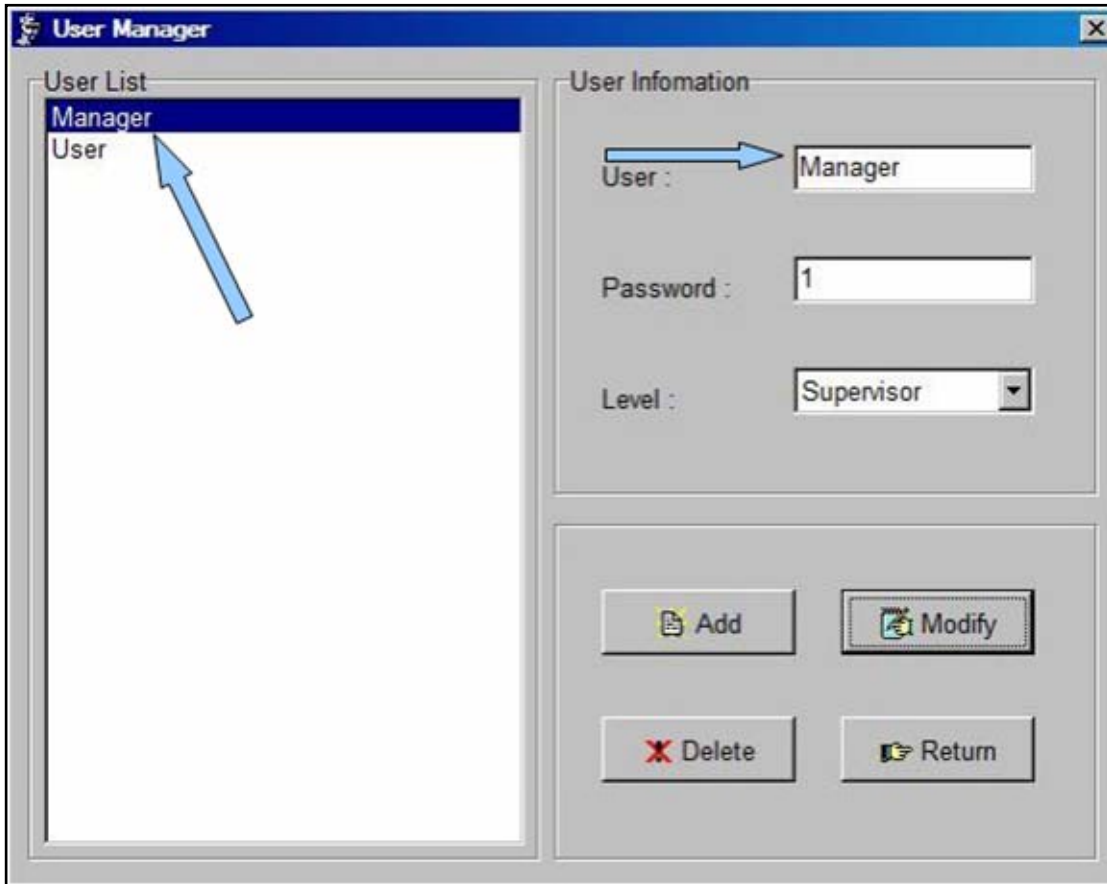

Figure 4-37. Manager Default Information
2. Select Manager in the User List, **Figure 4-37** to see the default information.